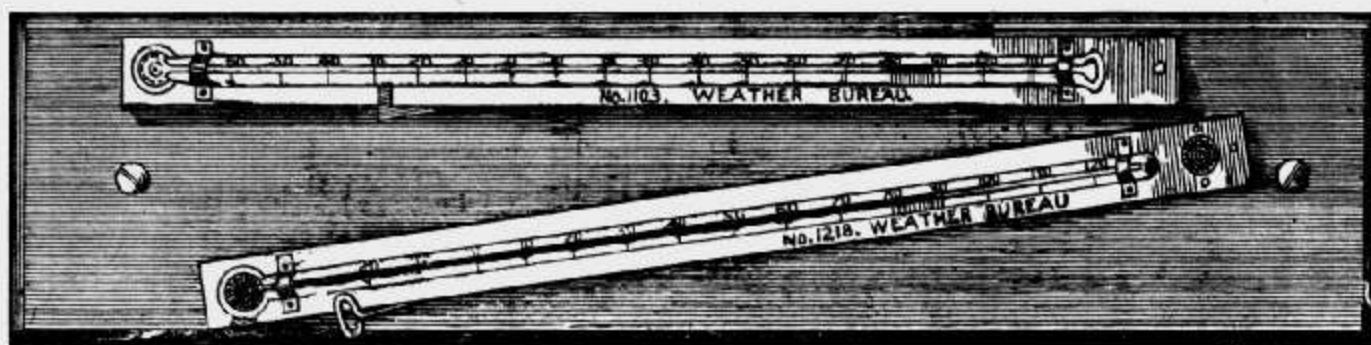

Fig. 19.
- Maximum Mercurial Thermometer (the *lower* instrument in the above cut), Fig. 19, Weather Bureau pattern, 12 inches long, stem-graduated and figured on glass, provided with heavy brass support and pin, price.....\$3.50
- Minimum Alcohol Thermometer (the *upper* instrument in the above cut), Fig. 19, Weather Bureau pattern, 12 inches long, stem-graduated and figured on glass, with brass support, price..... 3.00